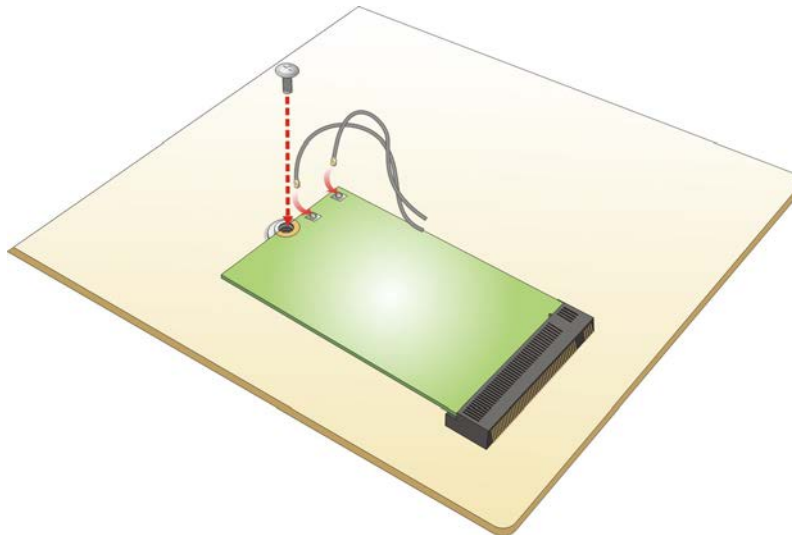

Figure 3-9: Securing WLAN Module and Connecting RF Cables
- Step 5:** **Secure the WLAN module.** Secure the WLAN module with the retention screw previously removed (**Figure 3-9**).
- Step 6:** **Connect the two RF cables** to the antenna connectors on the WLAN module (**Figure 3-9**).